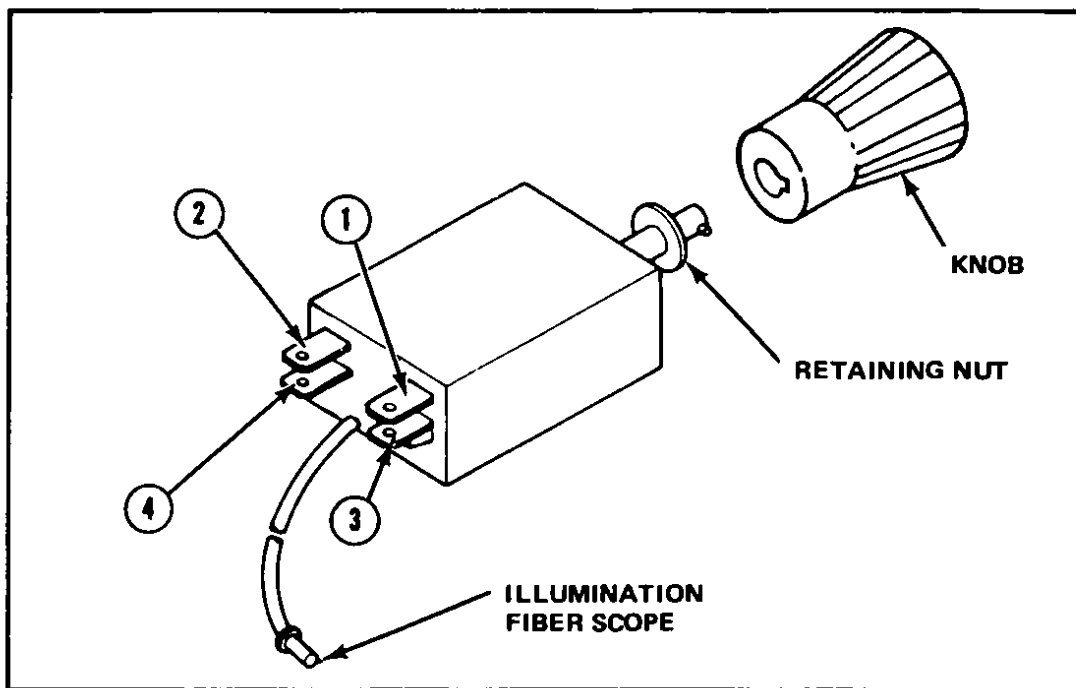

Fig 91 Lighting switch – Model 710
- 2 Depress the switch knob and turn it counterclockwise. Remove it from the switch assembly, Fig 91